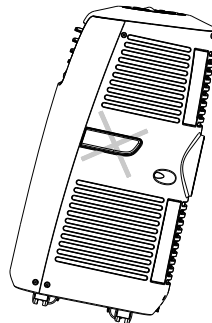

FIG. 1
- Only use in the upright position on a flat level surface and at least 36cm from any objects (fig 1 & 4).